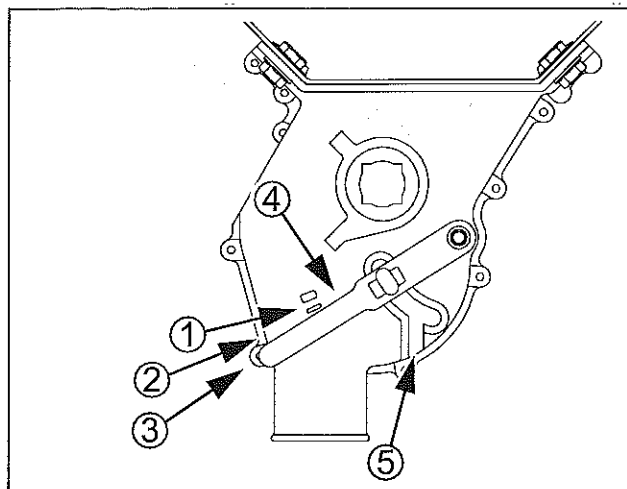

Figure 3
Refer to Figure 3, which depicts the seed cup door handle in position ③.